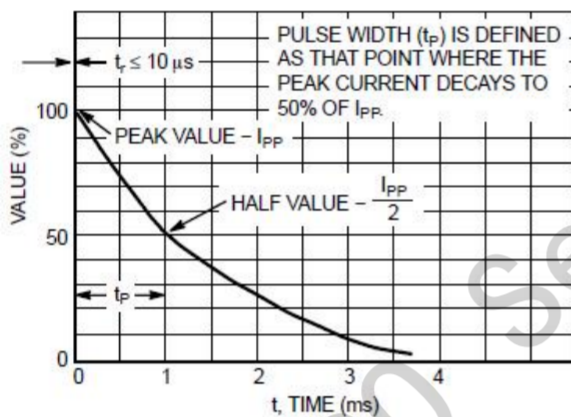
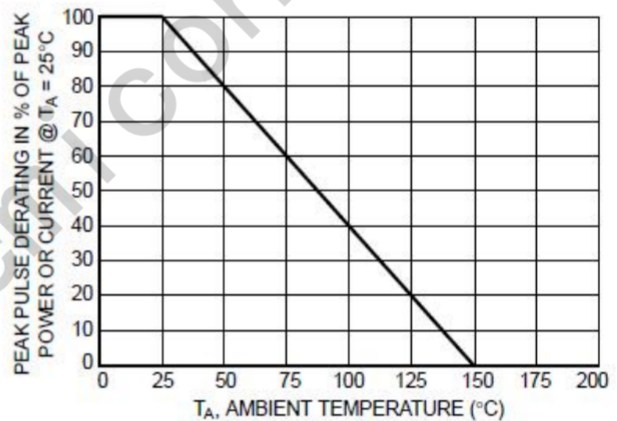

Figure 5. Pulse Waveform
Figure 6. Pulse Derating Curve
Peak Power-24 or 40Watts@1.0ms(Unidirectional), per Figure 5 Waveform
1. Non-repetitive current pulse per Figure 5 and derate above $T_A = 25^\circ\text{C}$ per Figure 6.
3. Surge current waveform per Figure 5 and derate per Figure 6.